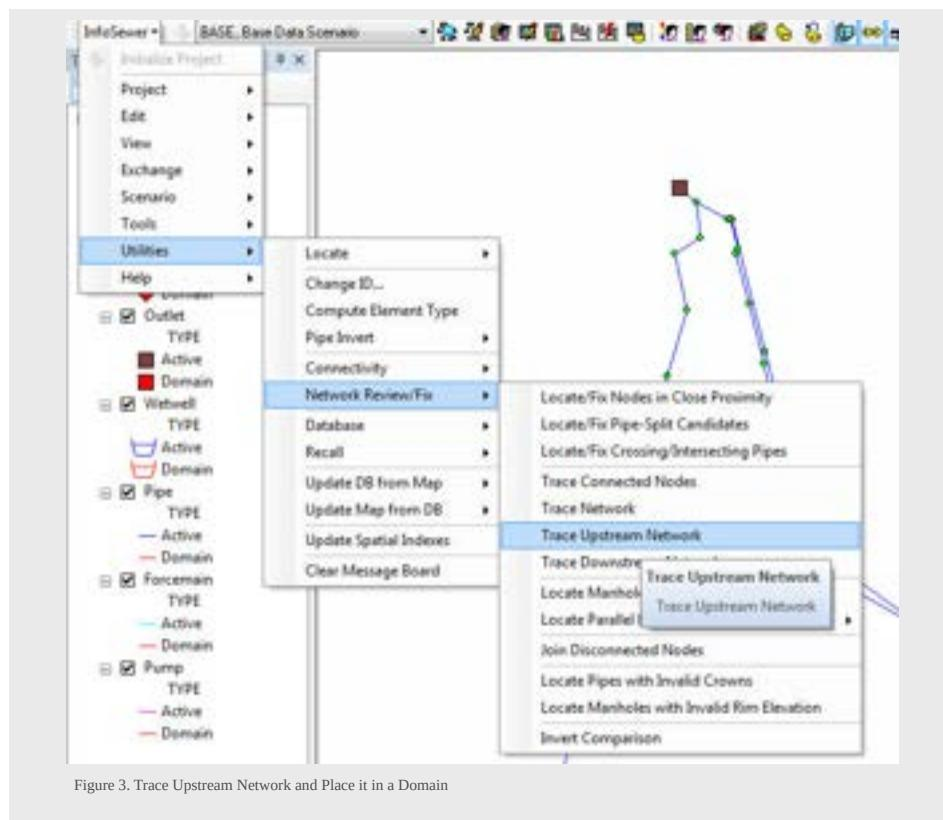

Figure 3. Trace Upstream Network and Place it in a Domain
Step 1. Use Trace Upstream Network to find the and place in a Domain the Upstream Network (Figure 3).